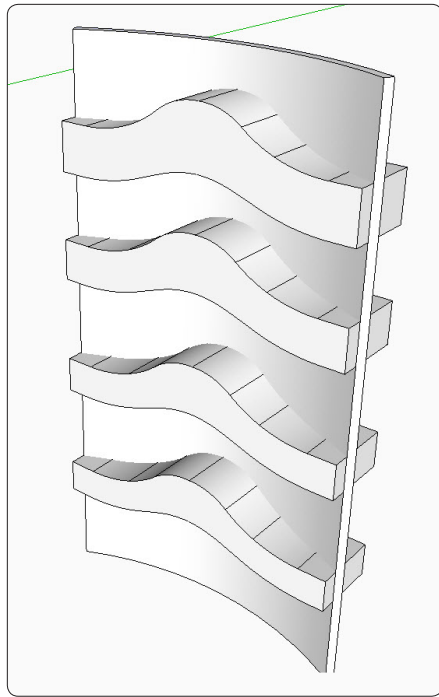

Figure 33. Use the Push/Pull Tool to give the slats thickness, and pull the top view up to intersect with all the slats.
Step 2 Use the Push/Pull Tool to give the front view of each slat thickness; the exact amount doesn't matter, but be generous. Then use the Push/Pull Tool to give the top view enough height to fully intersect with each extruded front shape, as shown in Figure 33.